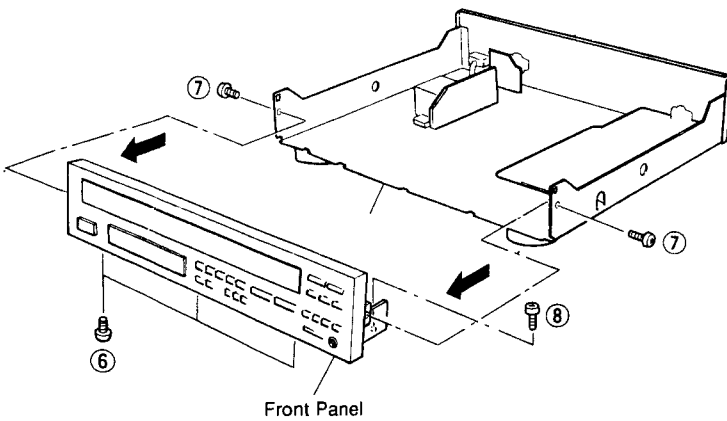

Fig. 8
- a. Remove 5 screws , (⑥ , ⑦) and also 1 screw (⑧) as shown in Fig. 8.
- b. Take off the Front Panel Unit slowly as shown in Fig. 8.